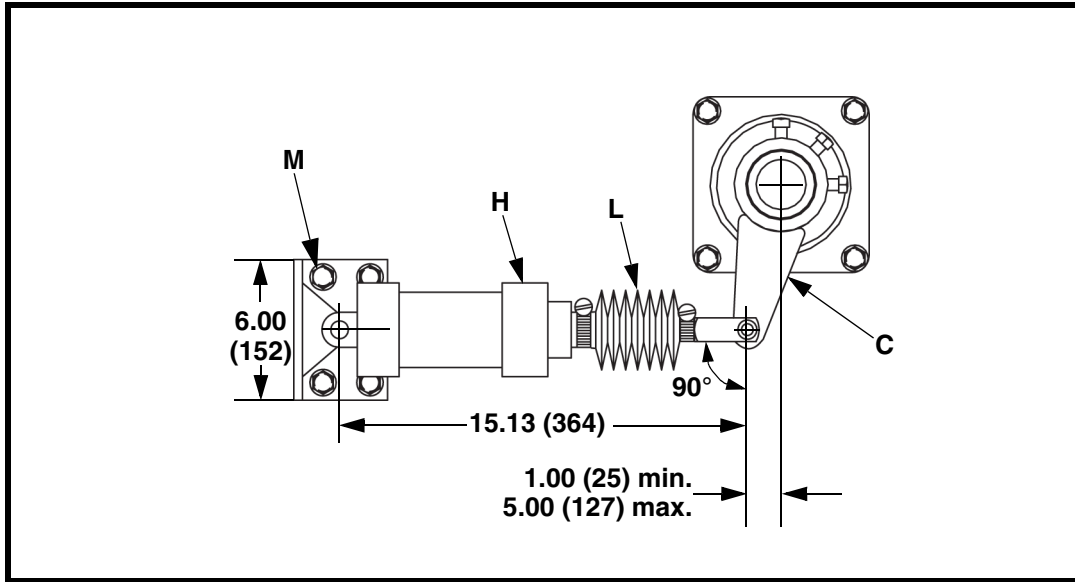

Figure 11. Air Tensioner Mounting Dimensions
6. Make sure the distance between the mainframe vertical center line and the force arm clevis pin vertical center line is between 1 and 5 in. (25 and 127 mm) as shown in Figure 11.
7. Push force arm (C) toward air cylinder (H) until sewn rod boot (L) retracts and the distance between the clevis pins on the cylinder measures 15-1/8 in. (364 mm).
9. Remove clevis pin (K) and cotter pin (J). Remove mount bracket.